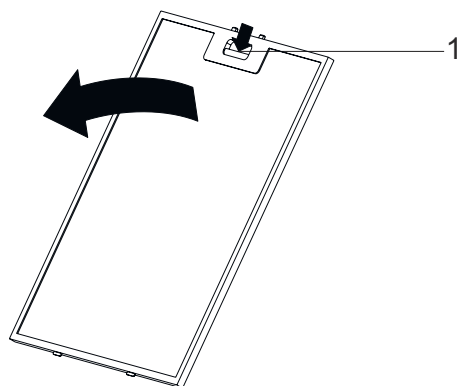

Fig. 10
- Press the aluminium filter tab (1) and pull the aluminium filter to the direction of the arrow (Fig. 10).